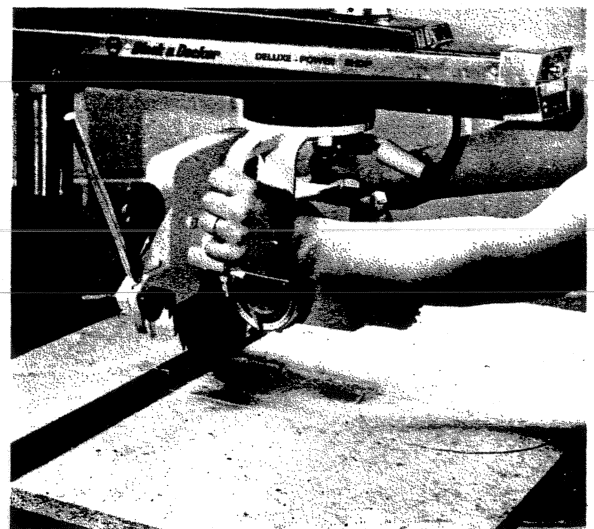

FIGURE 3
- (f) Once the $\frac{1}{4}$ turn cut is complete lock the yoke lock with your right hand and with the blade still revolving push the yoke back on the track until the blade reaches the fence. This will cut the rip through in the center of the table. Stop Motor. (Refer to fig. 3)